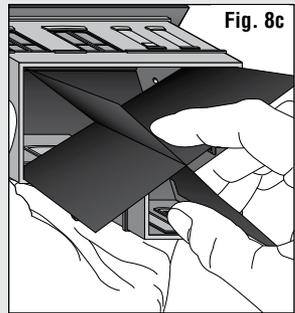

Fig. 8c
- Insert into Building (**Fig. 8c**).